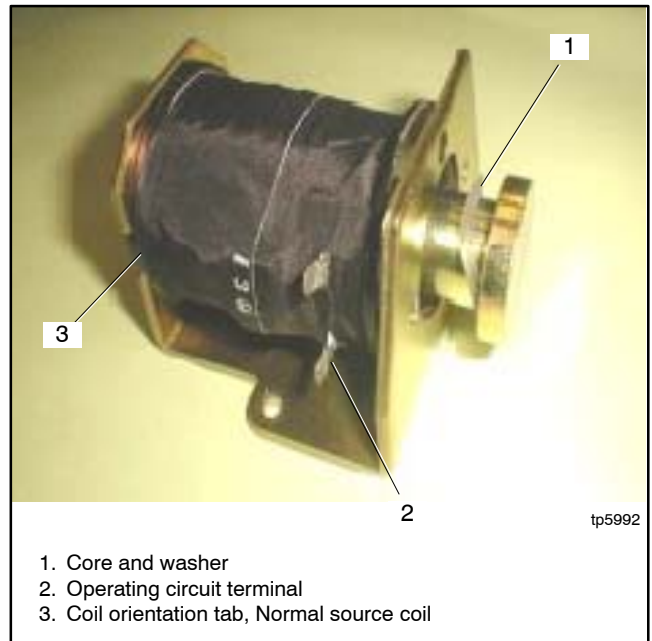
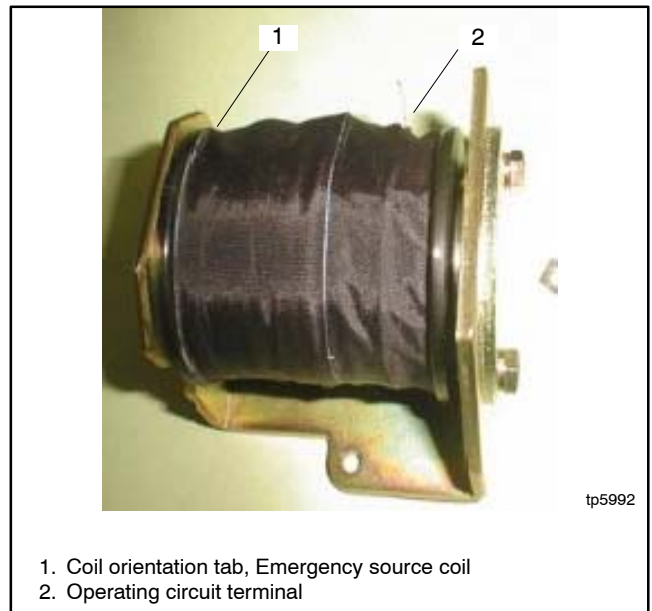

Figure 7-11 Coil Assembly, Normal Source Coil Shown (note the coil orientation)
Figure 7-12 Emergency Source Coil Assembly (note the coil orientation)
1. Position the coil in the bracket with the tab on the top of the coil and operating circuit terminal oriented as shown in Figure 7-11 for the Normal source coil or in Figure 7-12 for the Emergency source coil.
2. Insert the steel core with washer into the coil. See Figure 7-11.